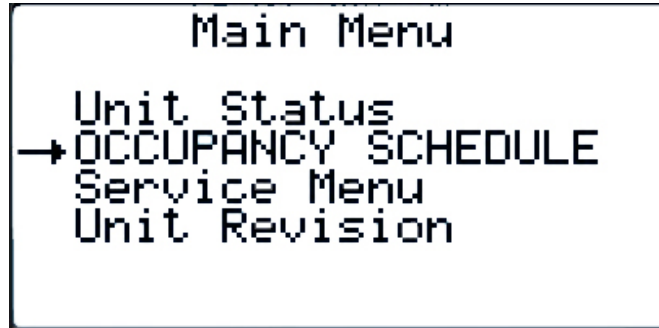

Figure 4
2.3 Main Menu (Figure 4)
Pressing the **Esc** key from the Home Screen displays the MAIN MENU (Figure 4). This menu allows the operator to select the STATUS MENU, set an Occupancy Schedule, enter the Service Menu and view the Unit Revision. To return to the Home Screen, press the **Esc** key.